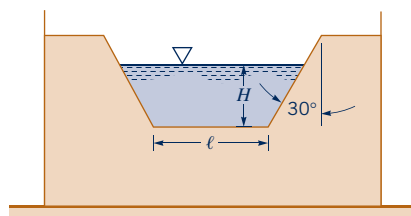

Figure P3.119
3.119 A weir (see Video V10.13) of trapezoidal cross section is used to measure the flowrate in a channel as shown in Fig. P3.119. If the flowrate is Q_0 when $H = \ell/2$, what flowrate is expected when $H = \ell$?